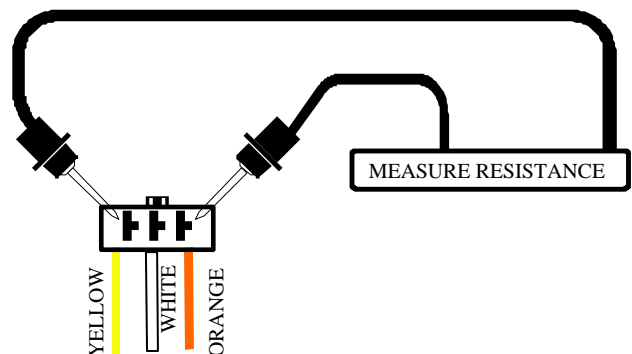

Figure 25. Connector 14
12. Insert multimeter probes into the throttle pot connector (14) at the yellow wire and the orange wire (outside two pins). See figure 25.